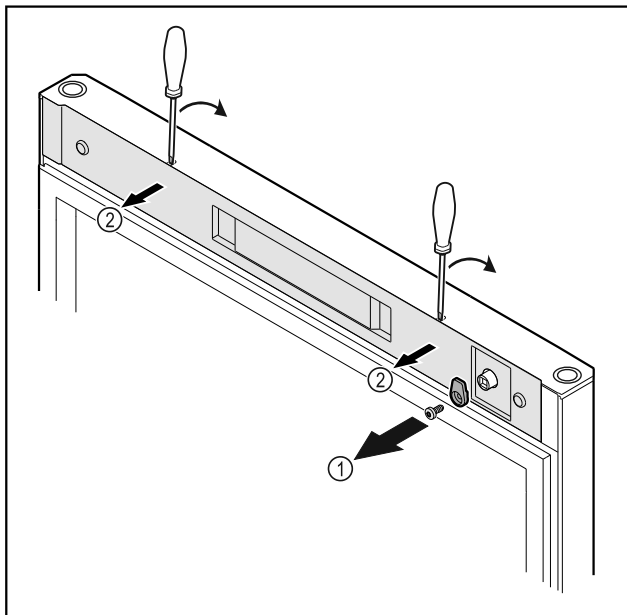

Fig. 20
- Unscrew the door latch Fig. 20 (1).
- Unlatch the cover Fig. 20 (2) with a small screwdriver and remove it.